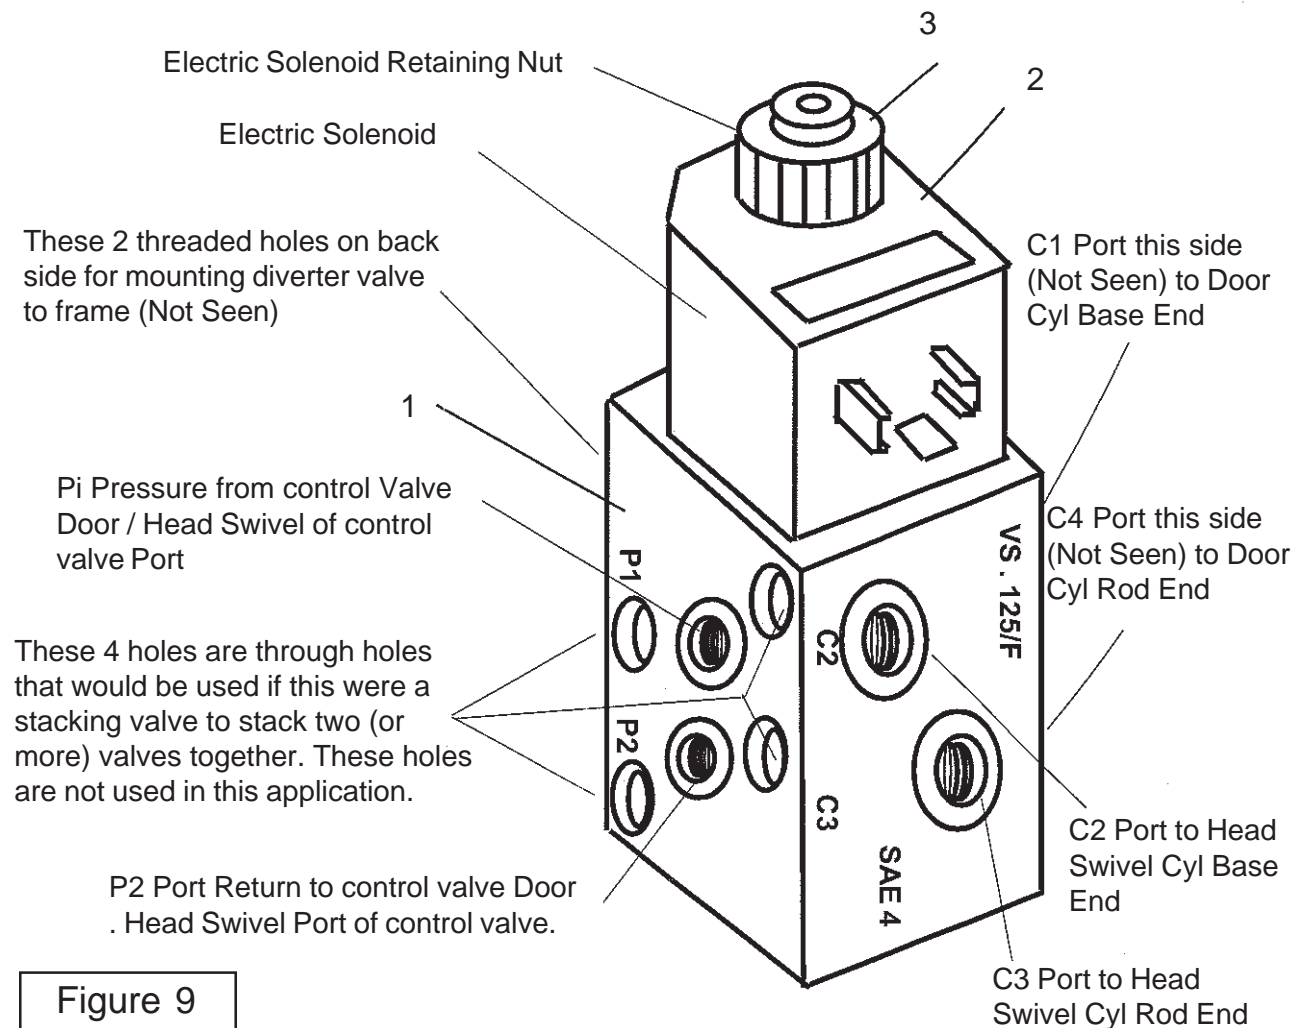

Figure 9
Through a toggle switch operation it can be decided which cylinder will function when on the cable control valve system and through button trigger combination on the joystick (electronic valve control) option. If the head swivel option is not used this diverter valve will not be used. (See Figure 9)
10. Pump / Driveshaft Yoke Gap Adjustment. After sliding Pump Shaft into Splined Clamp Yoke, the Pump and Yoke must be slid apart far enough to allow for a 1/16" to 1/8" Gap between them. The Yoke edge cannot touch the Pump Housing; it will damage the Housing and the Yoke if it does. This is a very critical adjustment (**See Figure 9**).
11. Tighten Clamp Yoke. After Gap between Yoke and Pump has been adjusted tighten the Bolts & Nuts on the Clamp Yoke (**See Figure 9 & 10**). Check Pump to Yoke Gap once more. Keep Pump Supported do not let it hang on Yoke.